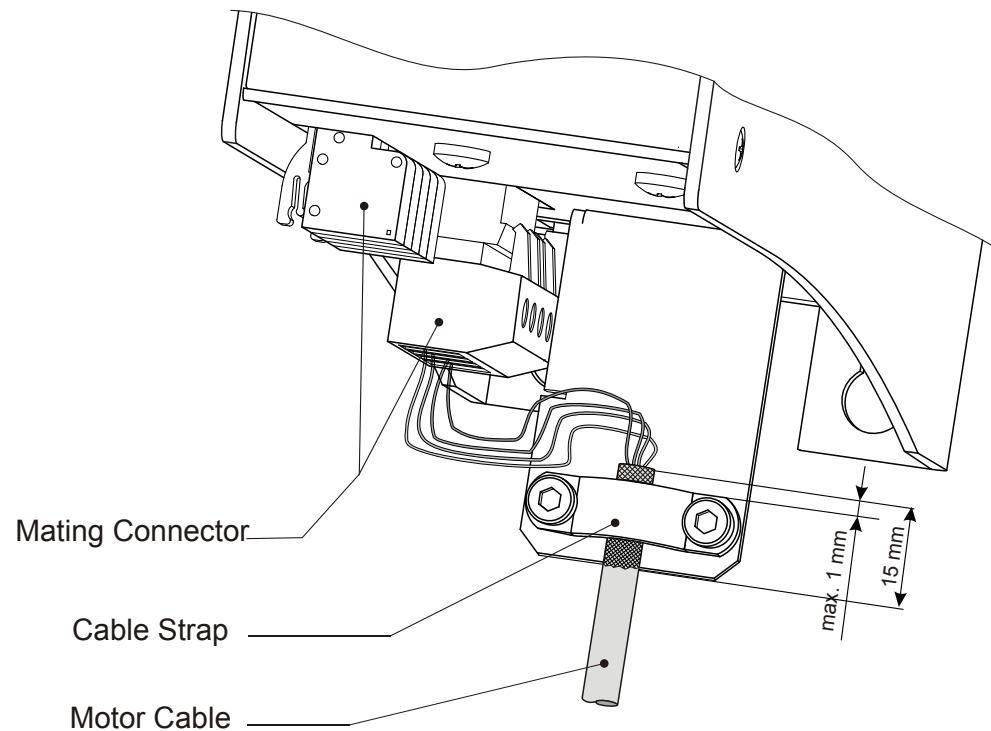

Fig. 3: EMC-compatible connection of motor cables
- Connect the motor lines according to fig. 3, page 21.